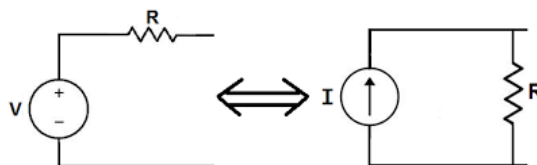

Figure 9.1: Source Transformation
- A source transformation, shown in Fig. 9-1, allows the replacement of a voltage source in series with a resistor by a current source in parallel with the same resistor, or vice versa. In order for these two circuits to be equivalent, the voltage drop and the current drawn by any load at nodes a and b must be the same. The relationship between and is simply: